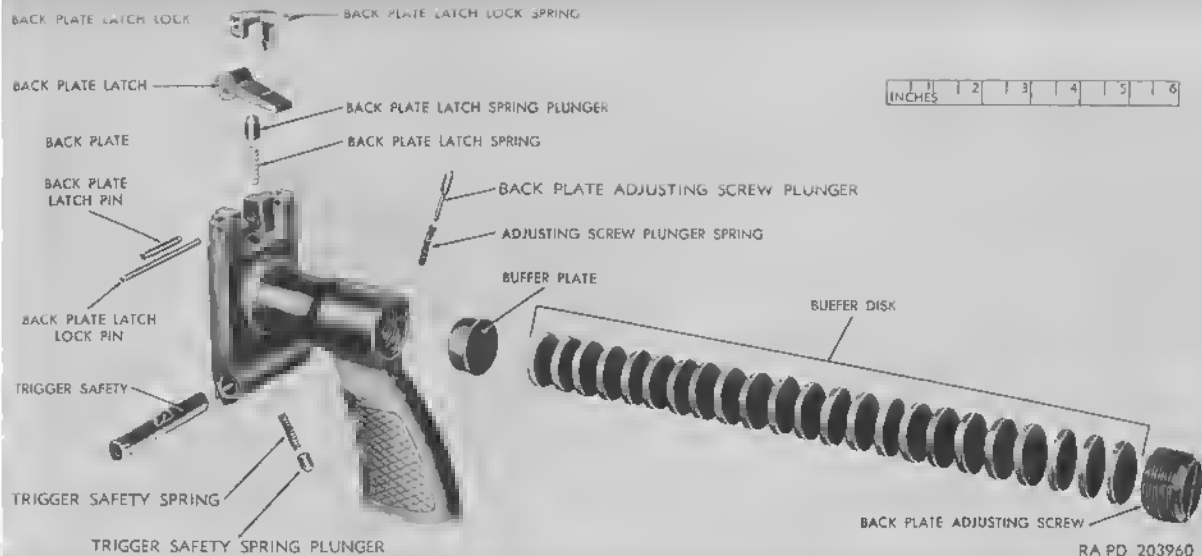

Figure 31. Back plate group—exploded view.
a. Remove the trigger safety (fig. 31) by pressing to the right, or "S" position; twist one-half turn and pull out. The trigger safety spring plunger and trigger safety spring can then be removed.